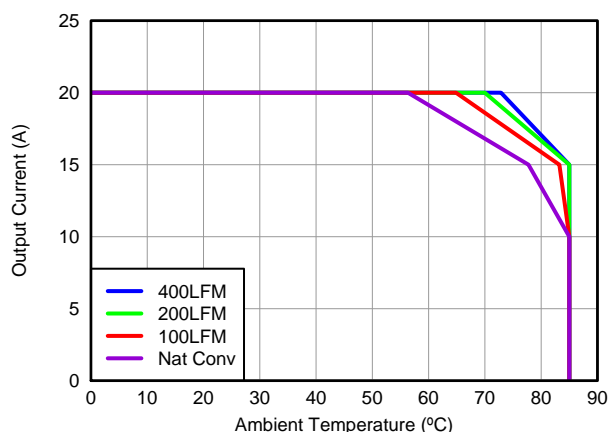
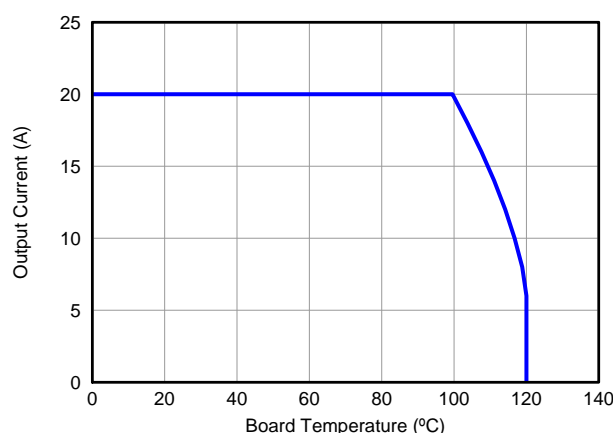

Figure 3. Safe Operating Area – PCB Vertical Mount⁽¹⁾
Figure 5. Typical Safe Operating Area⁽¹⁾
The SOA curves in the CSD87330Q3D data sheet provides guidance on the temperature boundaries within an operating system by incorporating the thermal resistance and system power loss. Figure 3 to Figure 5 outline the temperature and airflow conditions required for a given load current. The area under the curve dictates the safe operating area. All the curves are based on measurements made on a PCB design with dimensions of 4" (W) × 3.5" (L) × 0.062" (T) and 6 copper layers of 1 oz. copper thickness.